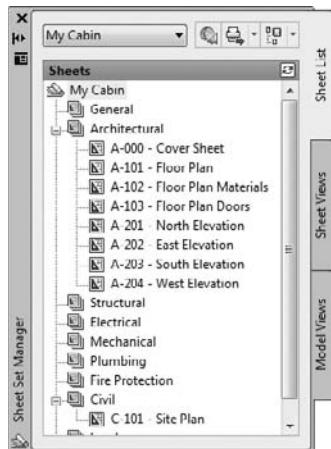

FIGURE 15.36 The My Cabin sheet list displaying a list of drawing sheets
2. Expand the drop-down list at the top of the Sheet List palette, and choose Open. Browse to and open the *My Cabin.dsd* file in your Chapter 15 directory. After you open the sheet set, the Sheet Set Manager palette set should display a list of drawing sheets in your project (see Figure 15.36).